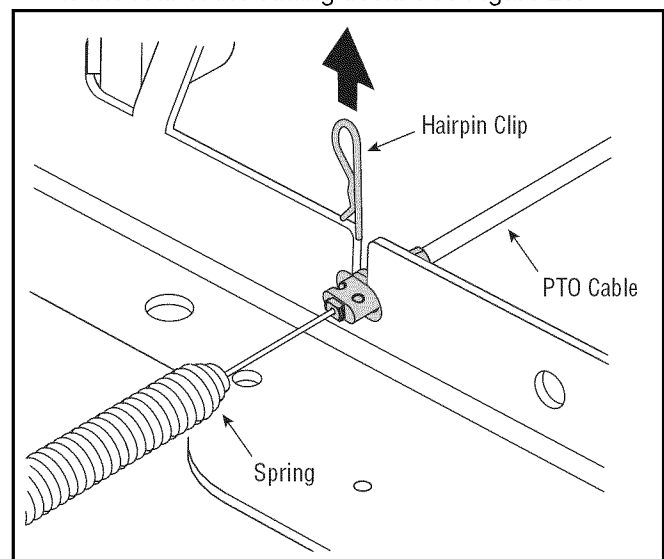

Figure 25
3. Remove the hairpin clip that secures the PTO cable to the rear of the cutting deck. See Figure 25.